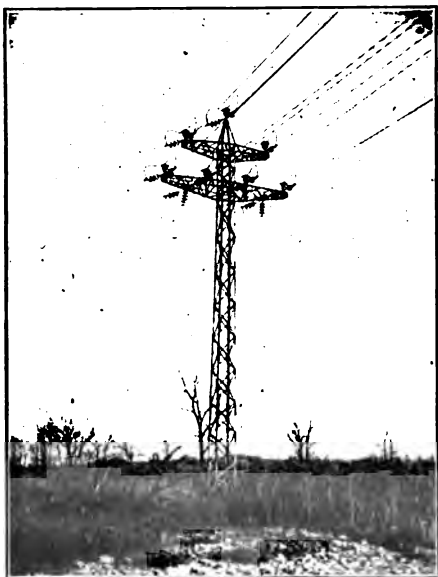

FIG. 442.—A "tower" supporting three, three-phase circuits of a high tension transmission line.
**437. Transmission of Electric Power.**—A field of peculiar usefulness for a.-c. currents is in the economical transmission of electric power. This fact is due to the following reasons: (a) The loss of electrical power in a transmission line is due to the production of heat; the heat produced being proportional to  $I^2R$ , or to the *square* of the *current intensity*. Any lessening of the current flow required to transmit a given power will therefore increase the efficiency of transmission. (b) In order to employ a small current in transmitting a large amount of power, we must use a very high e.m.f. Such high electromotive forces, say from 60,000 to 100,000 volts, can be obtained only by the use of a.-c. transformers, since it is not practicable to build a direct current generator capable of producing 60,000 volts. In large power transmission systems, a.-c. generators are used to produce powerful alternating currents. The e.m.f. is then stepped up to a suitable voltage (2300–100,000) by transformers and sent over transmission lines to the various places where the power is to be used; at these places suitable transformers "step-down" the e.m.f. to a convenient or safe voltage for use. (See Fig. 442 of a transmission line and Fig. 438 of a large power transmission system, and Fig. 439 of an a.-c. generator and power plant.)
leaving the generator will equal the sum of the currents returning to it. Since the algebraic sum of the currents produced by the three coil combination described in Art. 440 is always zero, it is possible to use three wires on three-phase transmission lines. Fig. 442 shows a "tower" carrying three, three-wire transmission lines. Long